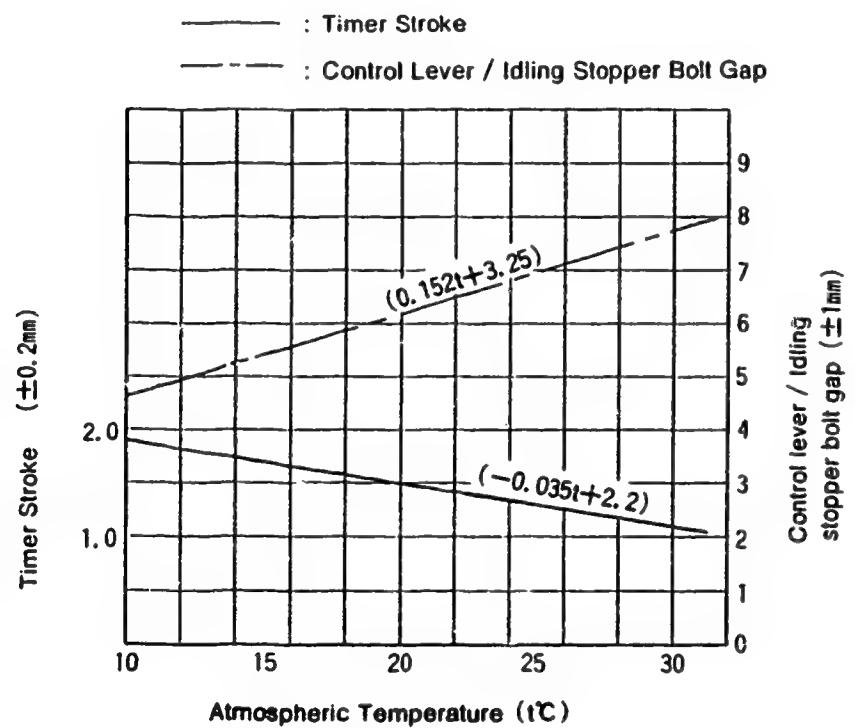

Fig. 2
- ① Using the graph (Fig 2), determine the Timer Stroke according to the atmospheric temperature at the time of adjustment.
- ② Adjust using the Timer Stroke adjusting bolt so that the Timer Stroke corresponds to the value determined in note ① above.
- ① Insert a block gauge of 5.3 \pm 0.05 mm thickness in the gap between the control lever and the idling stopper bolt.
- ② From Fig 2 determine the dimension of the gap between the idling lever pin and the control lever according to the atmospheric temperature at the time of adjustment.
- ③ Adjust using the fast idle adjusting screw so that the gap corresponds to the value determined in note 2) ② above.